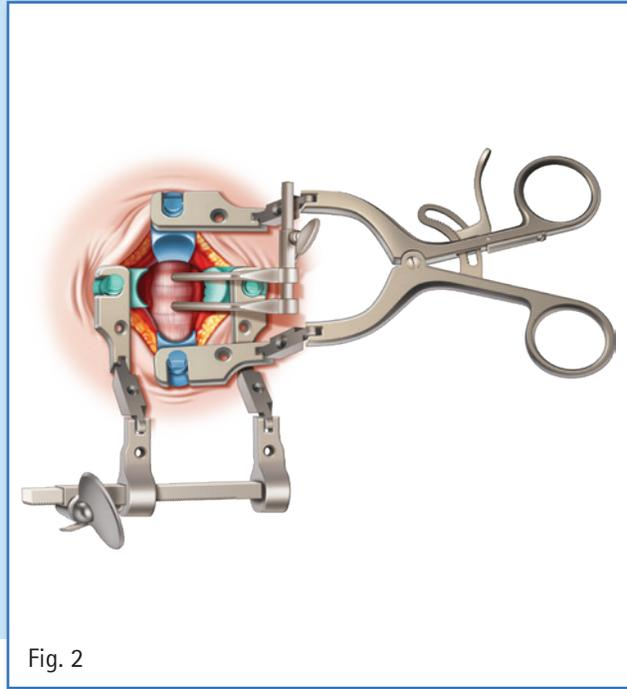

Fig. 2
- Provide the level of exposure to the implantation site the surgeon deems necessary to perform the surgery. A cervical retractor system, such as Aesculap's Caspar™ Cervical Retractor System, can be used to provide adequate visualization to the front of the cervical spine. (Fig. 2)